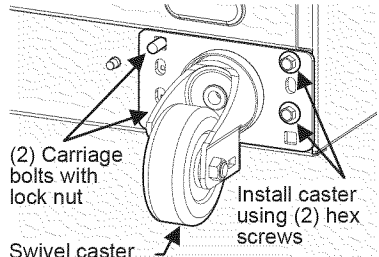

Figure 5
3. On the opposite side of the swivel caster plate, insert 2 carriage bolts through the compressor support rail and swivel caster plate. Use a lock nut on each bolt and tighten securely using a  $\frac{9}{16}$ " socket wrench. See Figure 5.